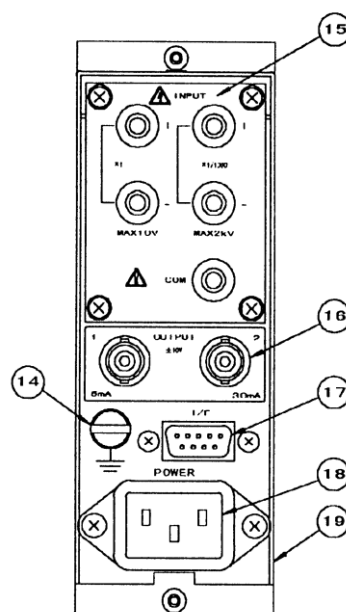

Fig. 3 Rear panel
⑧	Channel number area	Use for indicating channel number, etc.
⑨	INPUT (Input on/off button and LED)	Press the button to connect the amplifier input to the signal line (on). The LED lights. Again press the button to disconnect the amplifier input from the signal line (off). The LED extinguishes and the input circuit is connected to common.
⑩	GAIN (Gain select buttons and LEDs)	Up/down buttons for setting the amplifier gain. Press the up button to increase the gain and the down button to decrease the gain. The selected gain multiple is indicated by the adjacent LED.
⑪	ATT (Attenuator select button and LED)	The maximum input (DC or AC peak) range is respectively ± 10 V at the $\times 1$ setting and ± 2 kV at the $\times 1/1000$ setting.
⑫	CAL (Calibration button and LED)	Press the button to apply the calibration voltage (LED lights). Again press the button to remove the calibration voltage (LED extinguishes). The output becomes +2 V multiplied by the gain set by the VAR control (2 V when VAR is fully counter-clockwise). Since the calibration voltage is overlapped on the signal, be sure to set the function off (LED extinguished) during measurement.
⑬	LPF (Lowpass filter up/down buttons and LEDs)	Buttons select the output filter. The filter is a 3-pole Bessel type (rolloff response -18 dB/octave). Cutoff frequencies are 10, 100, 1 k and 10 kHz. W/B: 100 kHz +1, -3 dB
2.2 Rear panel names and functions (see Fig. 3)